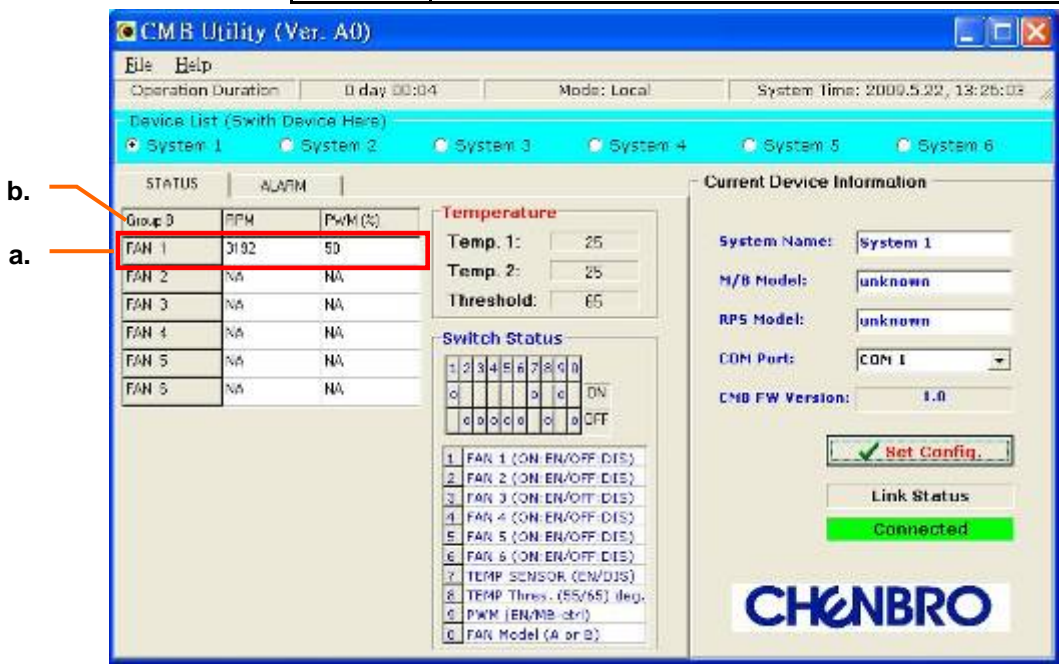

Figure-7
- **Fan monitoring:** when PWM fan(s) connected, the RPM and PWM (%) mode will be detected and shown on the relative column. (See Figure-7 a.)
Fan Group-A or -B will be automatically detected, and the default setting is Group-A. (See Figure-7 b.)